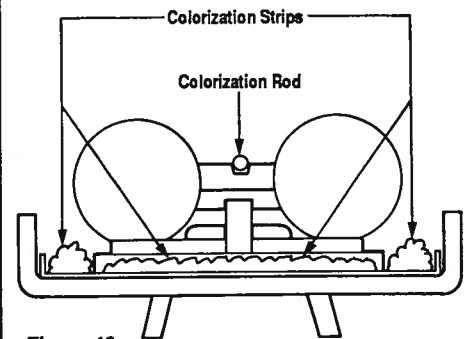
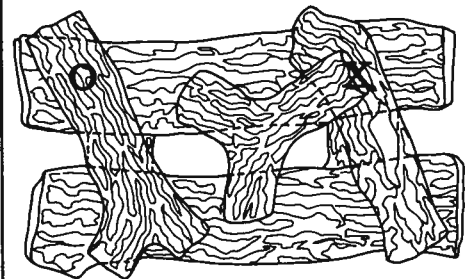

Figure 46
Figure 47
Step 12. Carefully position and center the two lower logs onto the burner. It makes little difference which way the two lower logs are orientated over the burner. Position the colorization rod, from the control carton into the two grooves found in the burner log connecting bridges (Figure 46). Place the three (3) smaller logs across the two (2) lower logs in the manner illustrated in Figure 47. The letters in the underside of the smaller logs must match the letters on the lower log to assure proper orientation.